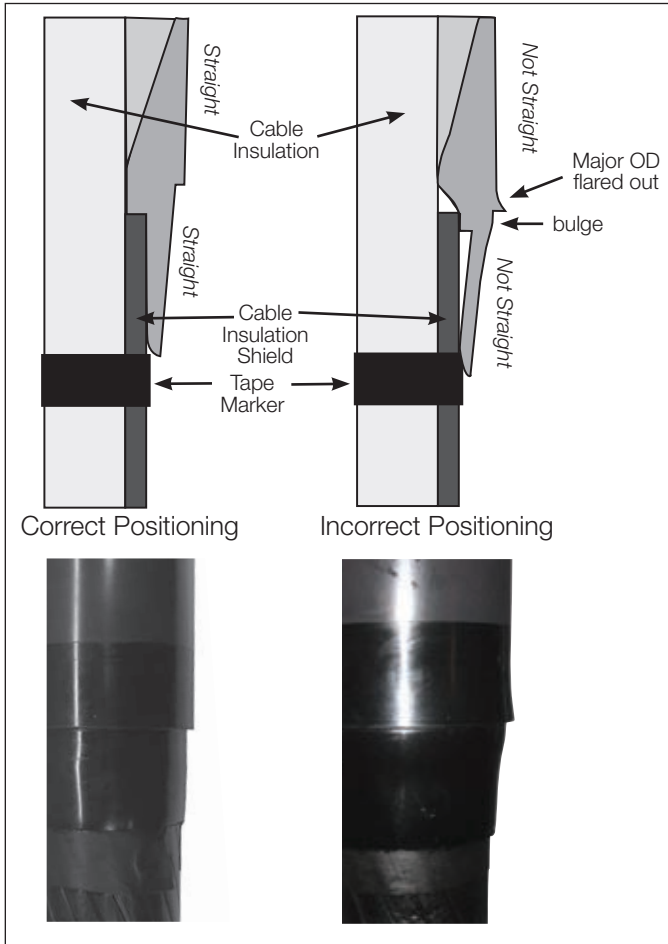

Figure 9.
- After sliding the cable adapter into position make sure that no bulge is present (see Figure 9).
NOTE: The end of the cable adapter must line up with the top edge of the tape marker after T-body assembly. Refer to Figure 9.